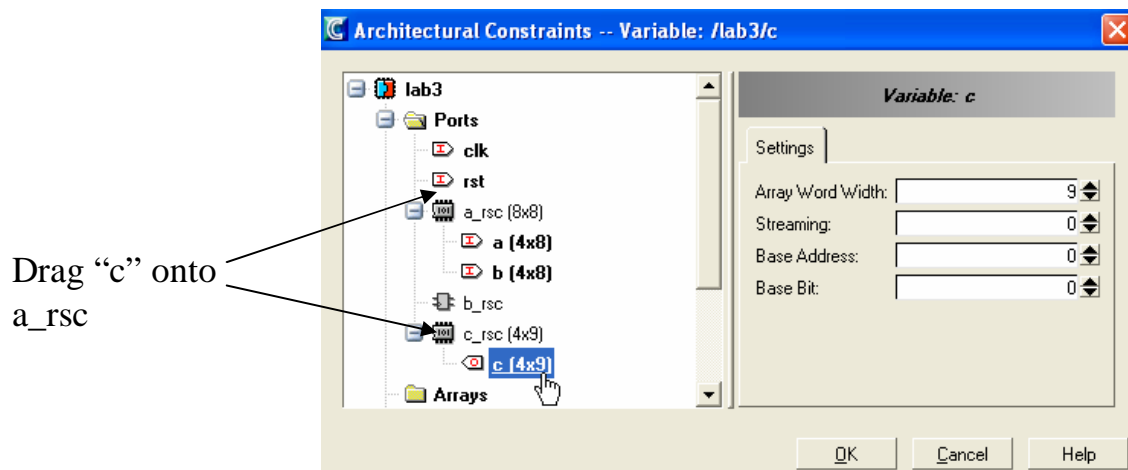

Figure 8 Combining Resources
- ✓ Open the architectural constraints window and expand all the resources in the ports folder. Click and drag the “b” and “c” variables onto the “a_rsc” resource (figure 8).